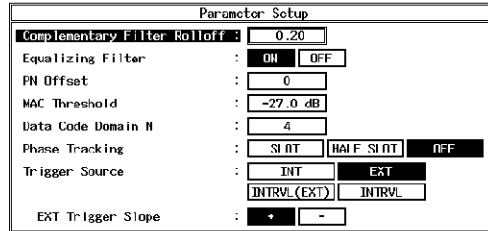

Figure 6-5 Measurement Parameters for Code Domain (IQ Input) (Forward Link)
4. Set up the R3267 series equipment for BASEBAND(I&Q) input signal measurement. Set parameters as shown in Figure 6-5 and execute **DC CAL**.